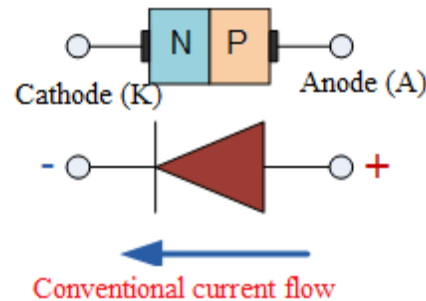

Fig.4: construction of PN junction
- In a piece of sc, if one half is doped by p type impurity and the other half is doped by n type impurity, a PN junction is formed. The plane dividing the two halves or zones is called PN junction. As shown in the fig.4.